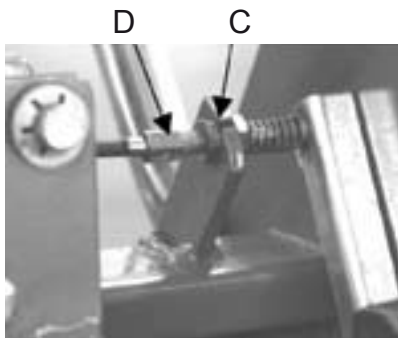

Figure 10. Clutch adjustment, clutch cover shown removed.
2. Loosen the locknut (C) Figure 10.
3. Turn the threaded adjuster (D) anti-clockwise two complete turns. Figure 10.
4. Tighten the locknut (C) and check the operation of the clutch.